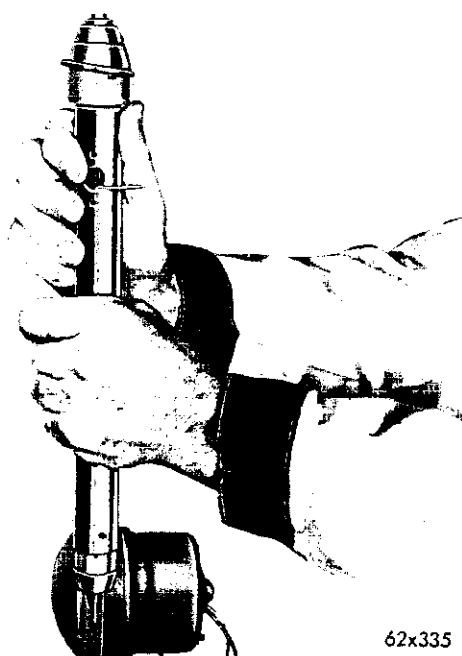

Fig. 16—Installing Mast Support
(2) Apply 12 volts D.C. to the "brown" (down) power lead and ground. Feed approximately 12 inches of the nylon cord into the drive. Push the "water seal washer" and "bottom insulator" all the way down into the "tubular fitting." Apply 12 volt D.C. power until "nylon cord" disappears.
(3) Push the "outer mast section" down into the "tubular fitting". Make sure that the upper edge of the flange on the "insulator bushing" is below center of the 3 holes in the "tubular fitting".
(4) Install the support tube assembly in proper position making sure the hook-up wire is extended through the large hole in the body (Fig. 16).
(5) Install the (3) screws to attach the support tube assembly to the motor and drive assembly.
(6) Solder the "hook-up wire" to the "pin".
(7) Assemble the "lead-in" receptacle with the (2) screws.
(8) Apply 12 volt power to the "yellow" and "brown" antenna leads and test for up and down operation.
(9) Install the antenna and connect the leads.
(10) Test the radio operation.